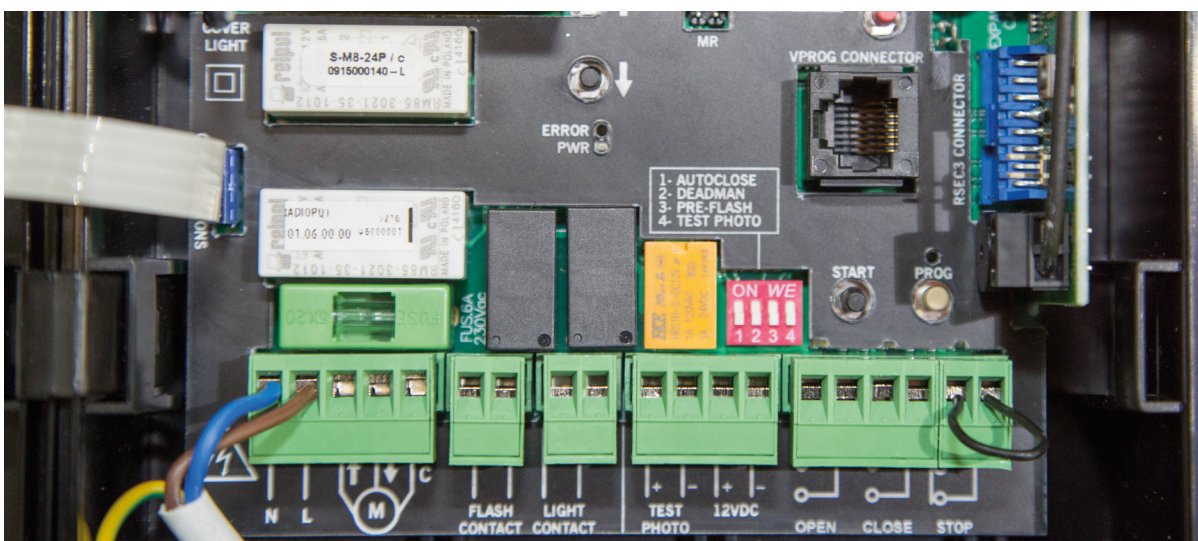

fig.5
- 6 Remove the green 5 terminal block in the bottom left corner (fig.5) and you will see letters printed on the circuit board.
Remove black link wire from far right hand side stop terminal, and replace with Brown (2 core cable) and Blue (2 core cable), one each side (fig.5).
- 9 There is a four dipswitch block at the bottom middle of the receiver board (usually blue or red). Slide dipswitch 2 into the up position (**fig.5**).
- 1 Press and hold the bottom close button on the receiver board (**fig.5**). This is located at the bottom right corner of the yellow transformer and the barrel should start turning in the downwards direction. Should the barrel be turning in the upward direction, swap motor wires black to U and brown to V.